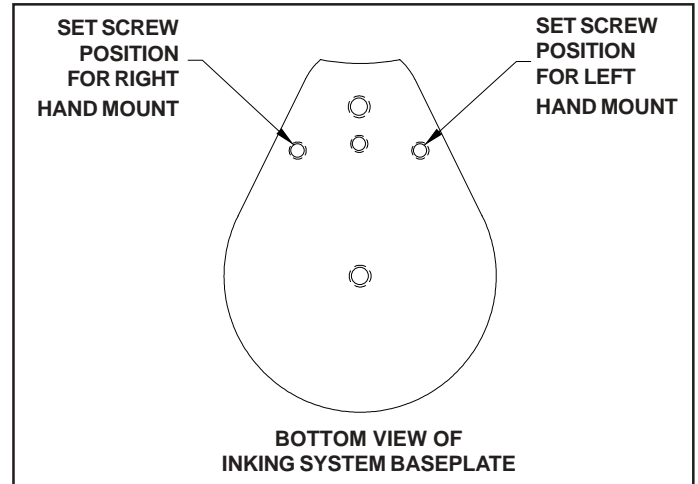

FIGURE 55
- 8 - Remove the Baseplate Plug from the bottom side of the Inking System Assembly Baseplate (See Figure 55).